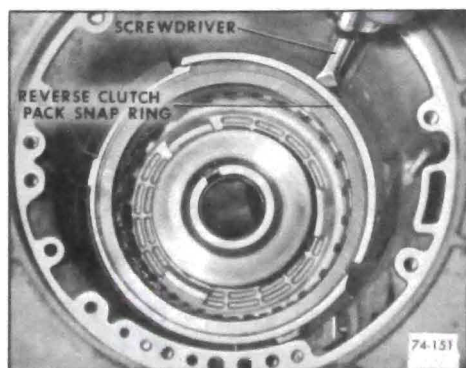

Figure 74-151
1. Place transmission in vertical position and remove reverse clutch pack snap ring with screwdriver. See Figure 74-151.